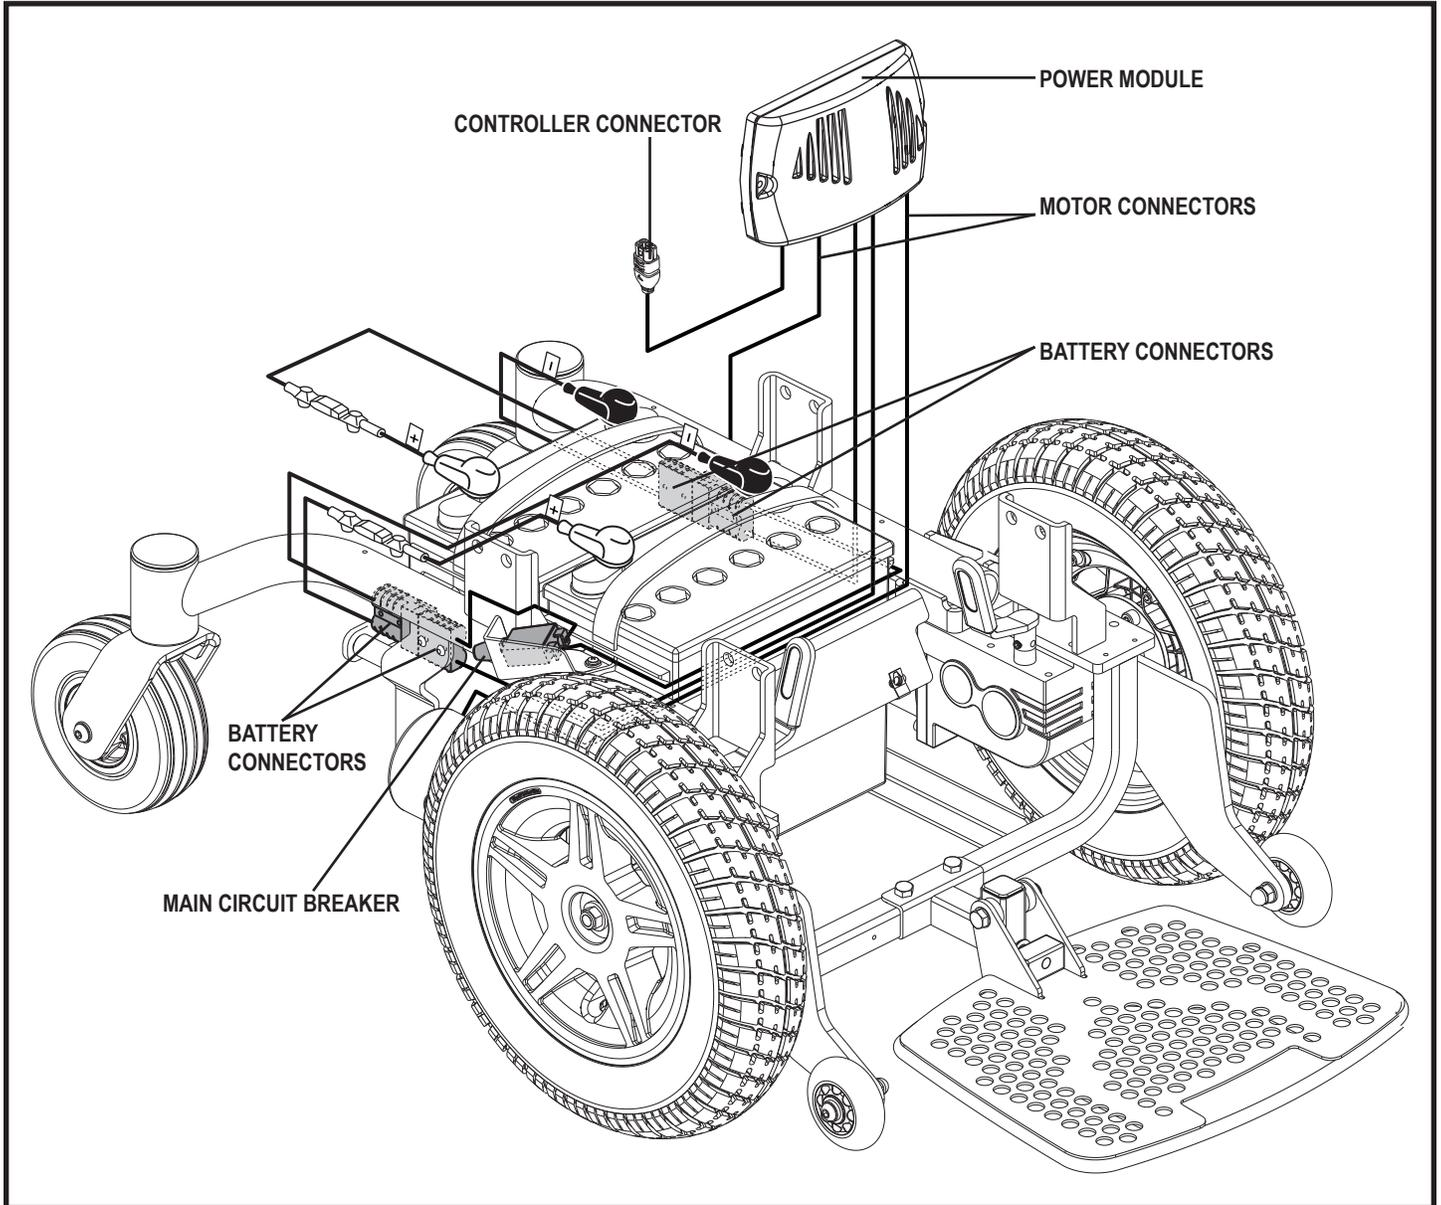

Figure 3. Jazzy Elite Series Electrical Components
The electrical components are located either on or inside the power base. The main circuit breaker is located on the right side of the power base. The power module is located under the front cover. **See figure 3.**
Main Circuit Breaker: The main circuit breaker is a safety feature built into your power chair. When the batteries and the motors are heavily strained (e.g., from excessive loads), the main circuit breaker trips to prevent damage to the motors and the electronics. If the circuit trips, allow your power chair to “rest” for approximately one minute. Next, push in the circuit breaker button, turn on the controller, and continue normal operation. If the main circuit breaker continues to trip repeatedly, contact your authorized Pride Provider. **See figure 3.**
5. Plug the controller connector into the front of the power base. See figure 3.
3. Unplug the controller connector(s) from the power base. **See figure 3.**